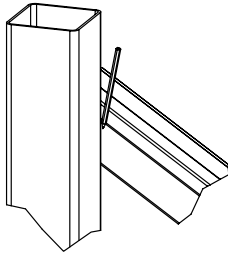
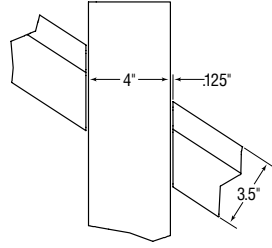

Figure 3:
Figure 4:
1) To properly fit the rail section, it will be necessary to cut or trim the top and bottom rails of the railing to the angle of the slope. The railing has been pre-routed to allow the railing to “rack” (slope) to the stair system angle. The top and bottom rail sections are strengthened with aluminum “H” channels that will be cut or trimmed along with the vinyl rails. To locate and measure the amount and angle to trim (cut) each end, place the rail section in place with the bottom rail resting on the stair treads directly next to the bottom and top post. See Figure 2 on page 5. Using a marker or pencil, mark the top and bottom rails using the post edge as the guide. See Figure 3 above. In order to insure that the balusters are positioned evenly between the posts, inspect the location and adjust the rail up or down prior to marking the top and bottom rail. The top and bottom rail sections should be trimmed at these angles. However, it will be necessary to cut an additional 1/8" off each rail to install the bracket properly. See Figure 4 above.